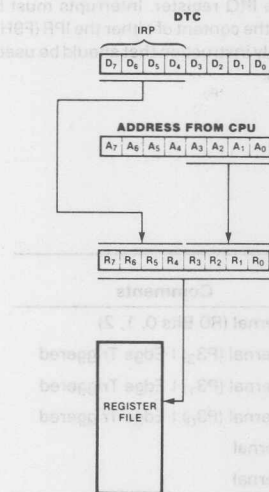

Figure 7. DSC Register Addressing Scheme
The master CPU also has direct access to 16 registers known as the DSC (Data, Status, Command) registers. The DSC registers are numbered 0 through F (DSC0-DSCF). These registers can be any 16 contiguous register file registers beginning on a 16-byte boundary. The base address of the DSC register group is designated by the IRP (I/O Register Pointer), which is bits D₄-D₇ of the Data Transfer Control register (OH). Figure 7 shows how the register address is made up of the 4-bit IRP field, concatenated with the low order 4-bits of the address from the master CPU.